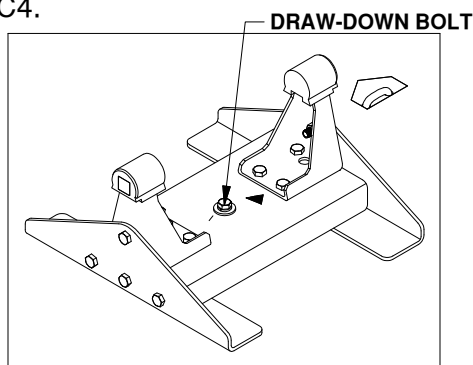

FIGURE C4. View of Companion base.
6. Tighten the 1/2" x 3-1/2" draw-down bolt to **40 ft-lbs**, see figure C4.